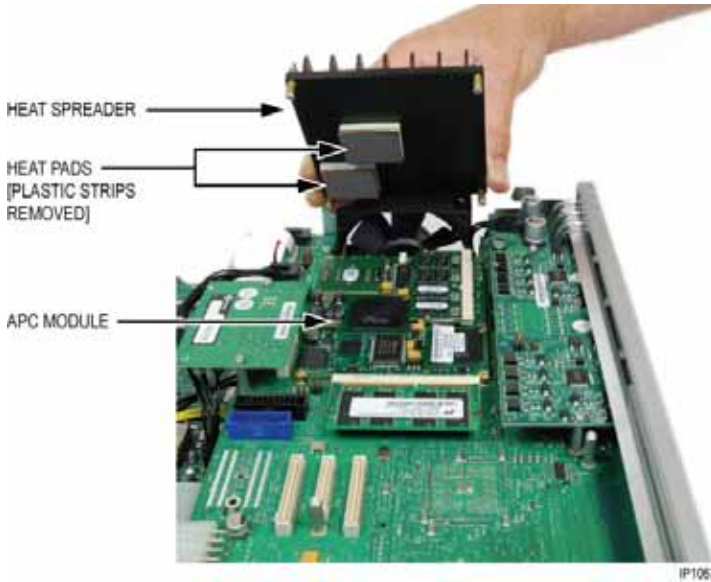

Figure 57: Positioning the Heat Spreader on the APC Module
6. Place the four screws (supplied) in the heat spreader, and lower the heat spreader onto the APC as shown in Figure 57. Align the cutout on the heat spreader above the memory modules on the APC.